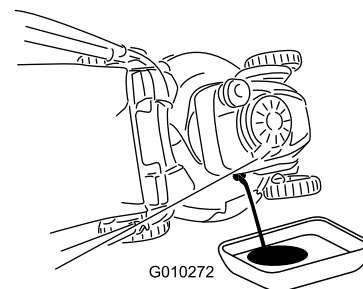

Figure 38
7. Tip the machine onto its side, with the oil-fill tube down, to drain the used oil through the oil-fill tube into the oil-drain pan (Figure 38).